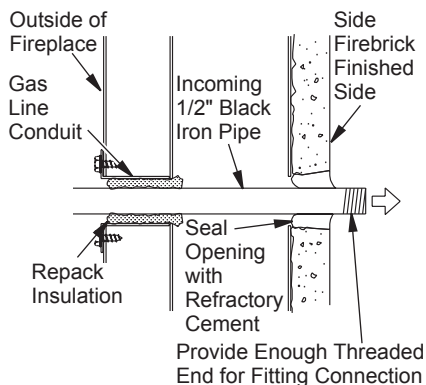

Figure 22 - Gas Line Installation
3. Run a 1/2" black iron gas line into fireplace through the rear, 11 1/4" from floor and through gas line conduit sleeve (if using a raised platform, add height). Provide sufficient gas line into fireplace chamber for fitting connection (see Figure 22).